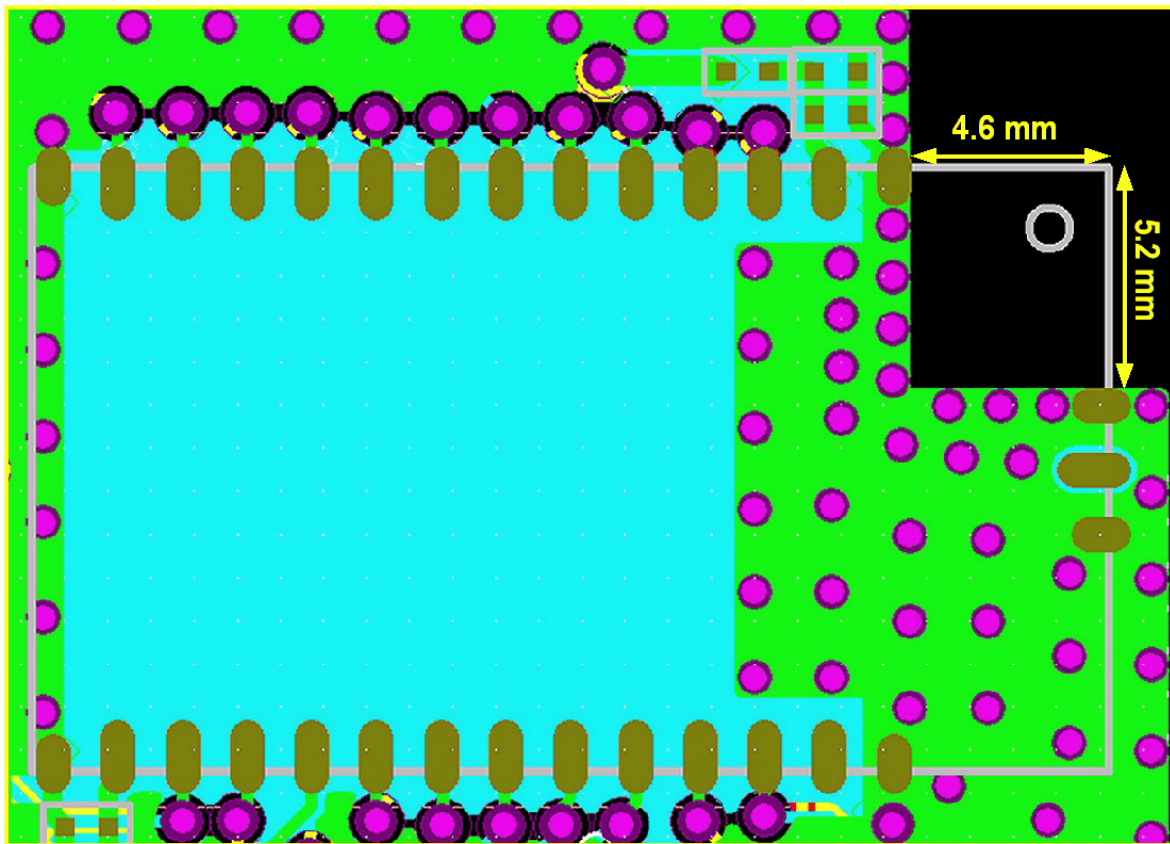

Figure 1: Ground areas under the WT12-A module
- Do not place a ground plane underneath the antenna. The area around the antenna must be designed as shown in Figure 1.